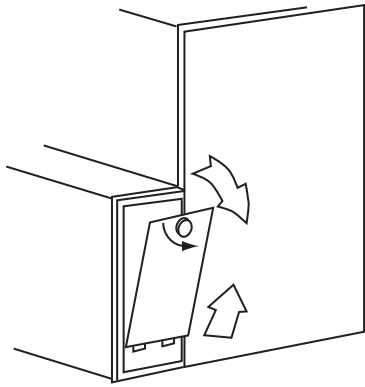
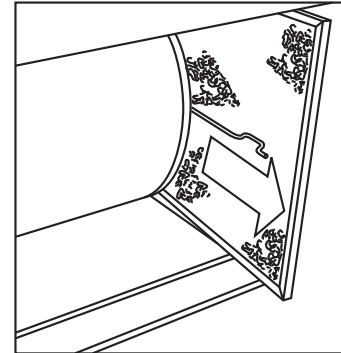

Fig. 23 - Removal of Filter Cabinet Door from Side Blower Cabinet
Fig. 28 - Slide Filter Out of Furnace (Side Inlet)
- b. Gently remove air filter and carefully turn the dirty side up (if dirty) to avoid spilling dirt from the filter (See Fig. 28).
• **AIR FILTER(S) LOCATED IN FILTER CABINET:**
- a. Remove filter cabinet door. (See Fig. 23 and 24.)